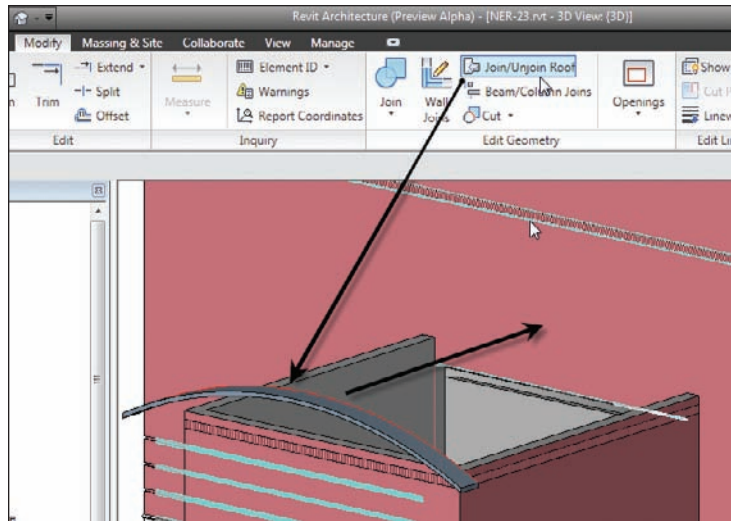

FIGURE 7.56 Picking the roof and the wall to join the two together
1. On the Modify | Roofs tab, click the Join/Unjoin Roof button, as shown in Figure 7.56.
2. Pick the top, back arc on the canopy roof, as shown in Figure 7.56.
3. Pick the wall that the roof needs to terminate into (see Figure 7.56).